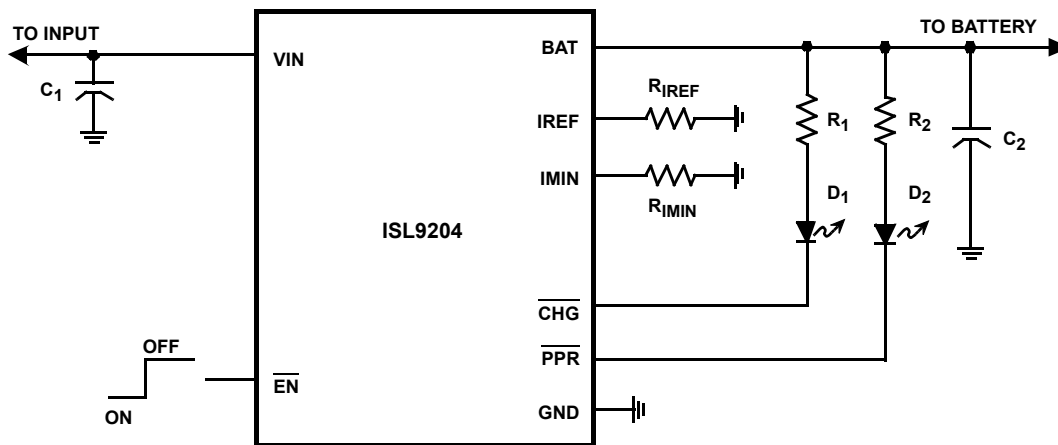
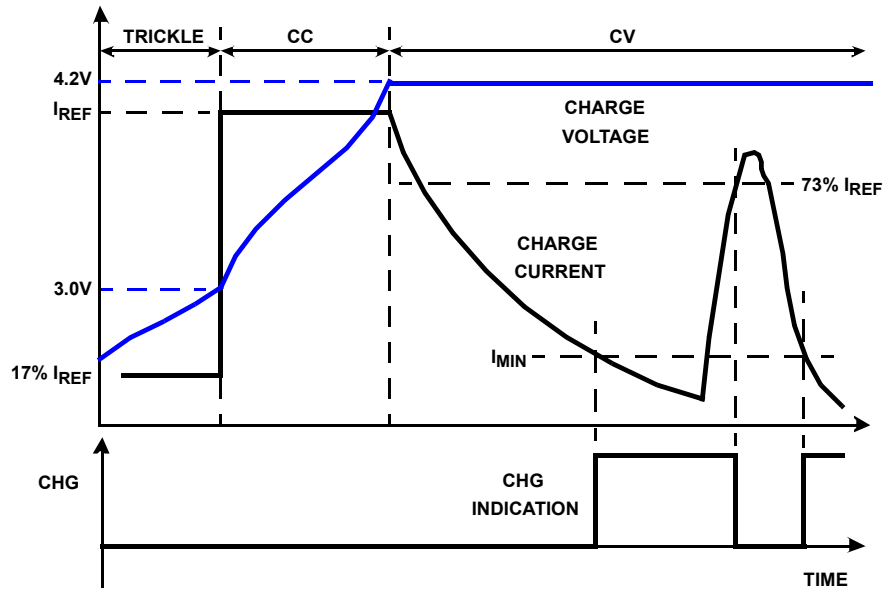

FIGURE 9. TYPICAL APPLICATION CIRCUIT INTERFACING TO INDICATION LEDs
FIGURE 12. TYPICAL CHARGE PROFILE
The ISL9204 charges a Li-ion battery with a constant current (CC) or a constant voltage (CV). The constant current  $I_{REF}$  is set with the external resistor  $R_{IREF}$  (see Figure 9) and the constant voltage is fixed at 4.2V. If the battery voltage is below a typical 2.8V trickle-charge threshold, the ISL9204 charges the battery with a trickle current until the battery voltage rises above the trickle charge threshold. When the battery voltage reaches 4.2V, the charger enters a CV mode and regulates the battery voltage at 4.2V to fully charge the battery without the risk of over charge. Upon reaching an end-of-charge (EOC) current, the charger indicates the charge completion with the CHG pin, but the charger continues to output the 4.2V voltage. Figure 12 shows the typical charge profile and the EOC/reset event.
The EOC current level  $I_{MIN}$  is programmable with the external resistor  $R_{IMIN}$  (see Figure 9). The CHG signal turns to LOW when the trickle charge starts and rises to HIGH at the EOC. After the EOC is reached, the charge current has to rise to typically 73%  $I_{REF}$  for the CHG signal to turn on again, as shown in Figure 12. The current surge after EOC can be caused by a load connected to the battery.
The PPR pin can be used to drive an LED (see Figure 9) or to interface with a microprocessor.